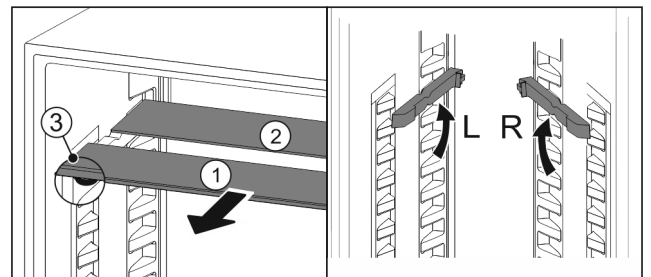

Fig. 188
- Pull the glass panels out Fig. 188 (1) from the front, one at a time.
- The glass panel Fig. 188 (1) and trim strip are at the front.
- The stops Fig. 188 (3) point down.